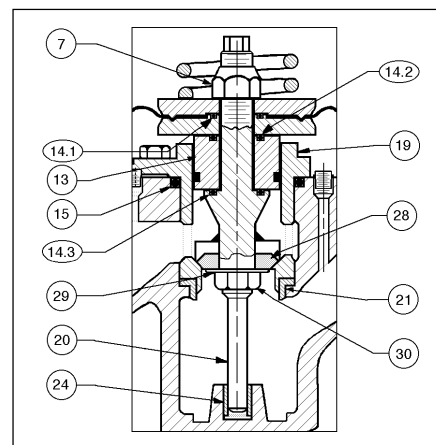

Figure 6: Body Sizes
- d. Remove upper diaphragm pressure plate (8).
- h. Remove lower diaphragm pusher plate (10).
- j. Remove plug (20) from vise, rotate end-for-end, and resecure in vise using same metal bars above.
- k. Loosen seat disc nut (30) CCW (viewed from above) approximately two (2) revolutions.
- l. Remove assembly (20, 27, 28, 29, 30) from vise. Complete removal of seat disc nut (30), seat disc washer (29), and seat disc (28).
2. *Body Sizes 2-1/2" – 4".* (See Figure 6):
- a. Place seat disc nut (30) into a vise with the plug (20) oriented vertically. Do NOT over-tighten nut (30) in vise.
- b. Place closed-end hex wrench onto diaphragm locknut (7). Place socket wrench on 3/4" hex upper end of plug (20). Loosen diaphragm locknut (7) while holding plug (20) from rotating by socket wrench. Re-